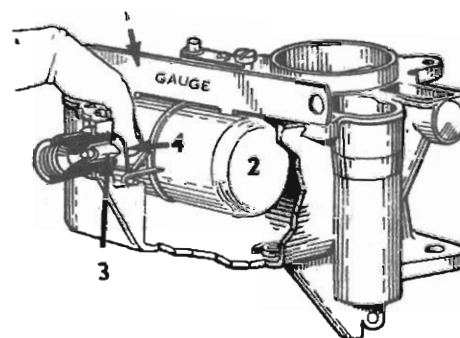
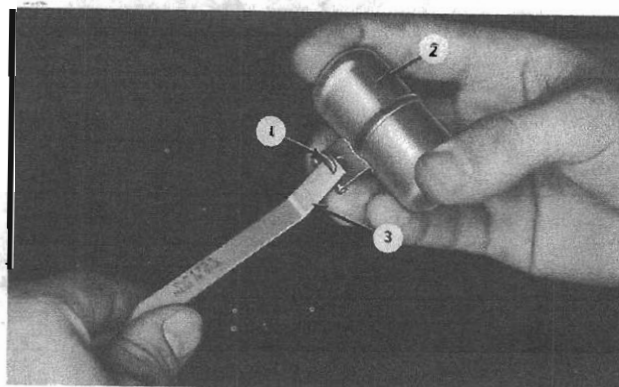

FIG. 12
FIG. 13
Install the float needle seat and gasket assembly and float needle. Then, install the float and float lever pin. To check the float level, hold the lip (4, Fig. 12) of the float (2) against the float needle (3) making sure the float pin is pushed down as far as it will go. Place the Float Level Gage KMO-733 (1) across the rim of the float bowl and over the center of the float and check the float position. The float setting should be $5/64" \pm 1/64"$ (1,98 mm. $\pm 0,397$ mm.). To obtain setting, bend the vertical lip (1, Fig. 13) of the float (2) using the Vacuum Piston Wrench Tool KMO-269-S5 (3).